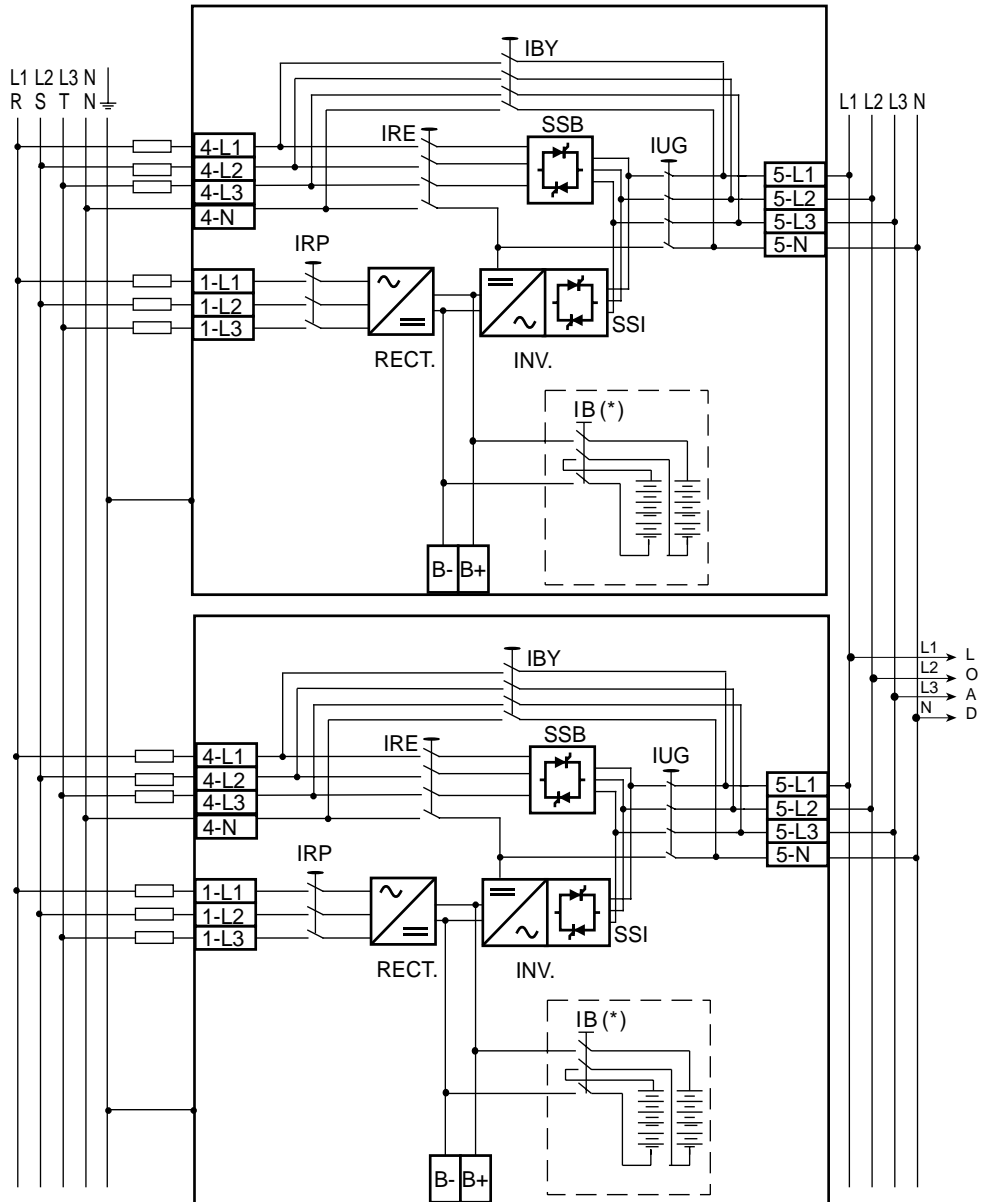
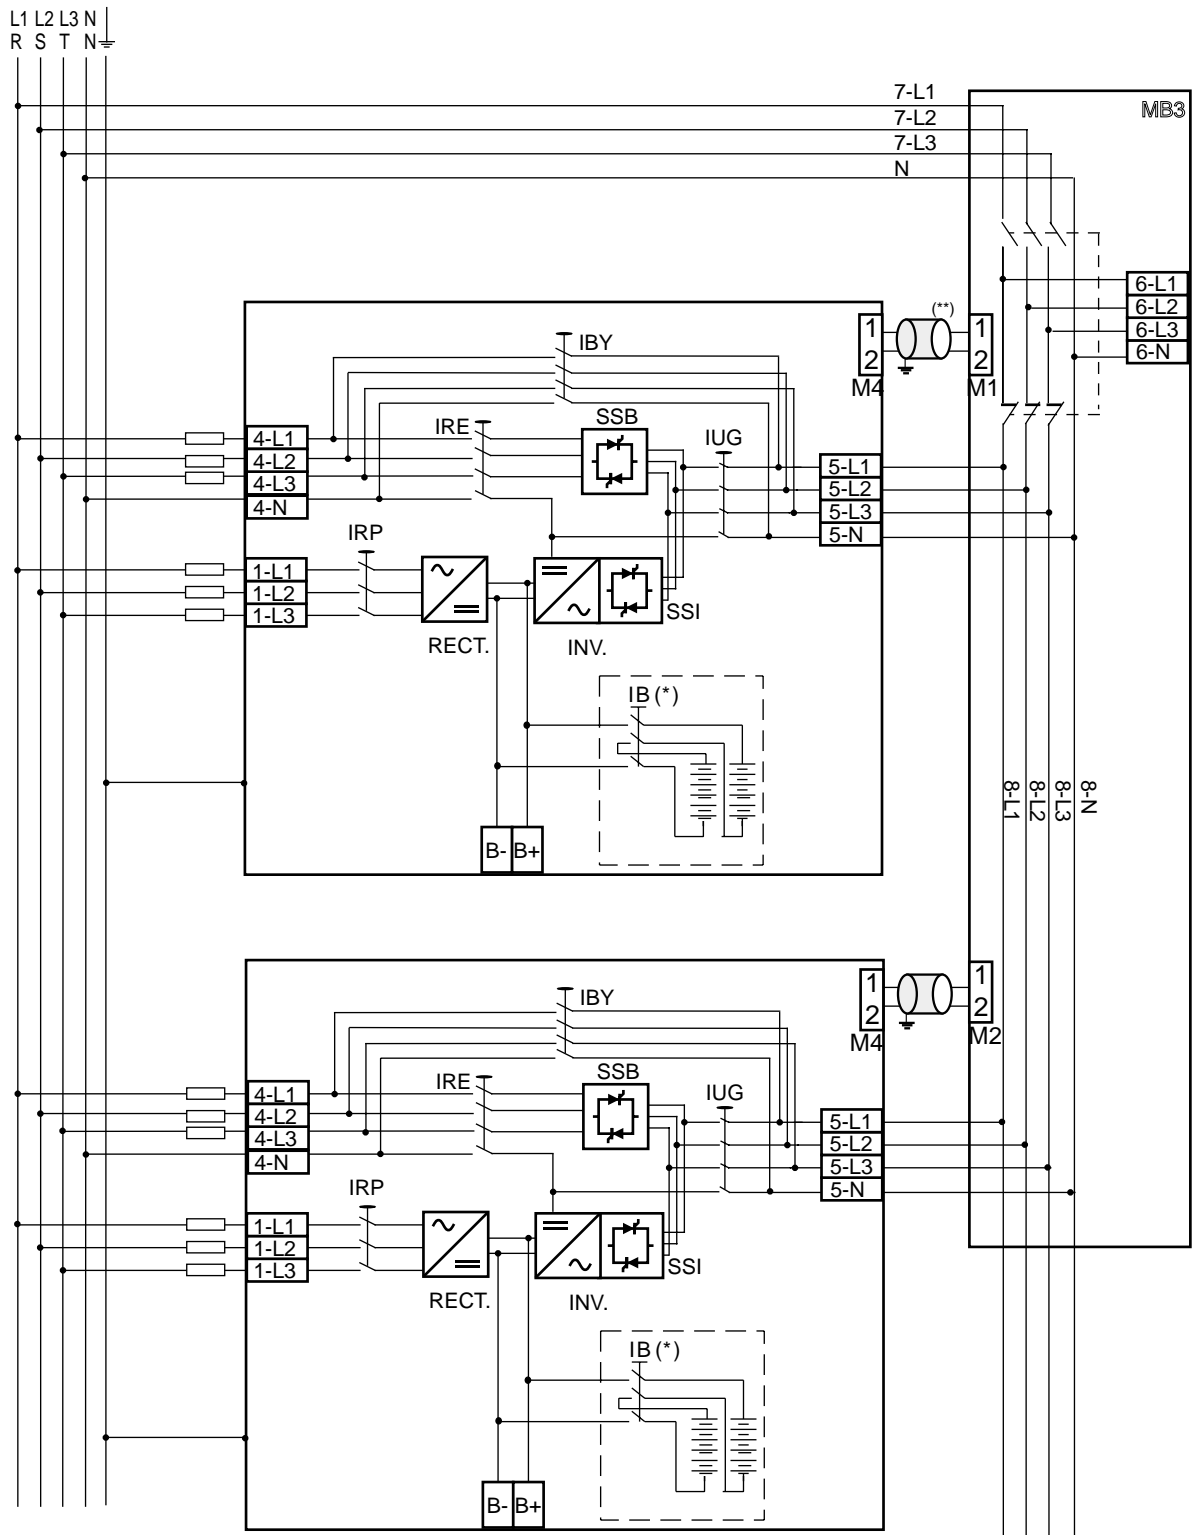

FIG. 1.14.1 Interconnection of hot-standby units with integrated maintenance bypasses and separate bypass terminals.
FIG. 1.14.2 Interconnection of hot-standby units with external maintenance bypass and separate bypass terminals.
For hot-standby systems the units must be connected together as shown in the FIG. 1.14.1 or FIG. 1.14.2
**Note:** The installation for each unit must be performed in accordance to the installation of single units as described in the previous sections. Additionally, the outputs must be connected in parallel as shown in FIG.1.14.1 or in FIG.1.14.2